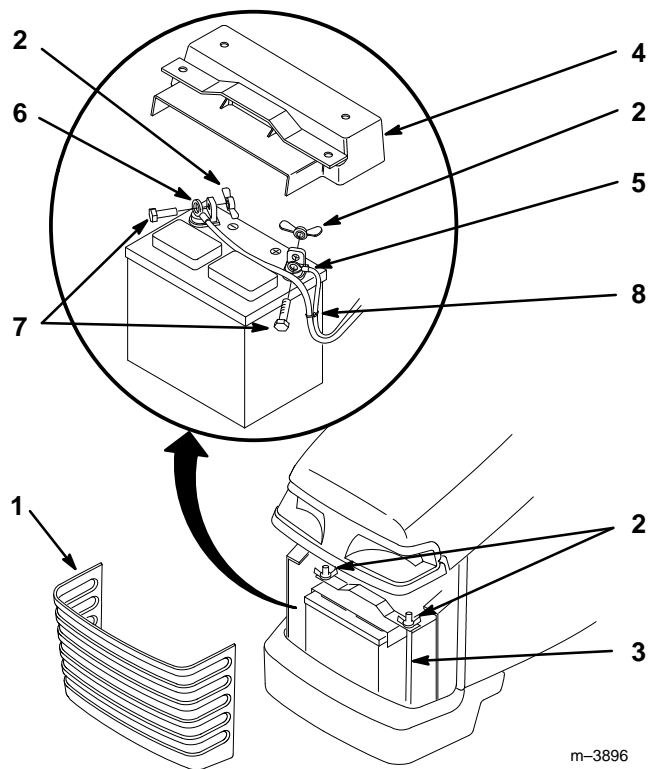

Figure 1
2. Remove the front grill (Fig. 1).
3. Remove the 1/4" wing nuts securing the battery shield and battery (Fig. 1).
4. Disconnect the negative (black) ground cable from the negative (-) battery post (Fig. 1).
5. Disconnect the positive (red) cable from the positive (+) battery post (Fig. 1).
1. Place the battery into the chassis with the terminals to the rear (Fig. 1).
2. Route cables along side and over top of battery as shown so they do not contact any sharp edges (Fig. 1).
3. Connect the positive (red) cable between 1/4-20 x 3/4" (19 mm) bolt head and the positive (+) battery post, as shown, and secure tightly with 1/4" wing nut (Fig. 1).
4. Connect the negative (black) cable between 1/4-20 x 3/4" (19 mm) bolt head and the negative (-) battery post, as shown, and secure tightly with 1/4" wing nut (Fig. 1).
5. Place the battery shield over battery and secure to the chassis with hold-down rods and wing nuts (Fig. 1).
6. Replace front grill (Fig. 1).